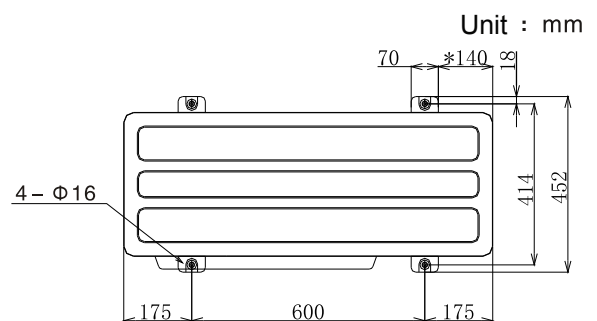

Fig. 4.3 Position of Anchor Bolts
(2) When installing the outdoor unit, fix the unit by anchor bolts. Refer to Fig 4.3.